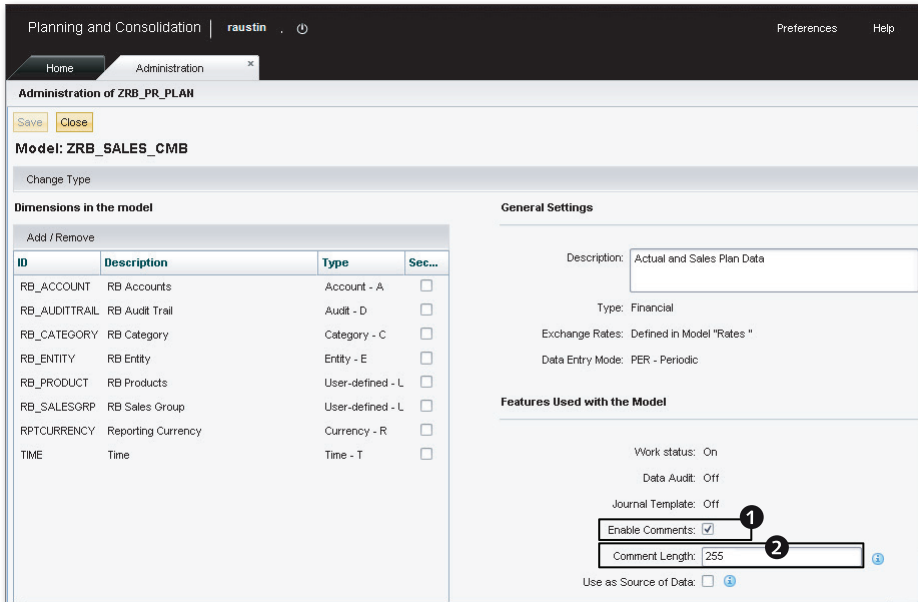

Figure 7.8 Adding Comments—Part A
1. In the SAP BPC Web Client, connect to the **ZRB_PR_PLAN** environment, and click on the **MODELS** view of the **DIMENSIONS IN THE MODEL** domain in the **PLANNING AND CONSOLIDATION** workspace. Select the **ZRB_SALES_CMB** model, and click the **EDIT** menu option. Set the checkbox to **ENABLE COMMENTS** for the model, and set the length of the comment (Figure 7.8, ❶ and ❷).